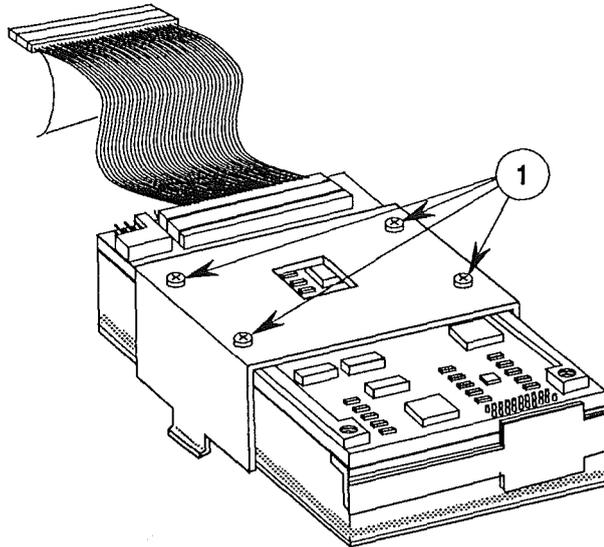

FIGURE 11
5. Remove the hard disk drive from its metal bracket by removing the four Phillips screws on the bottom of the bracket (Figure 11, #1).